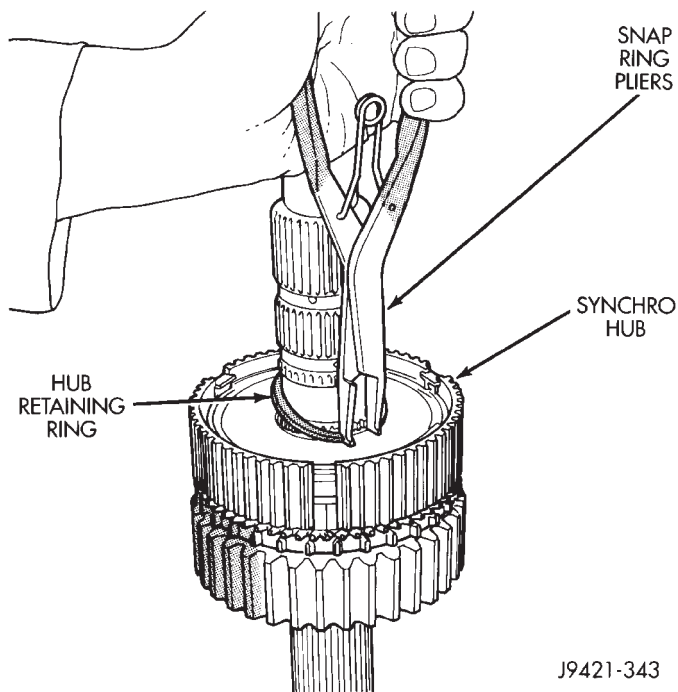

Fig. 75 Synchro Hub Retaining Ring Installation
(5) Install synchro hub retaining ring (Fig. 75). Be sure ring is fully seated before proceeding.